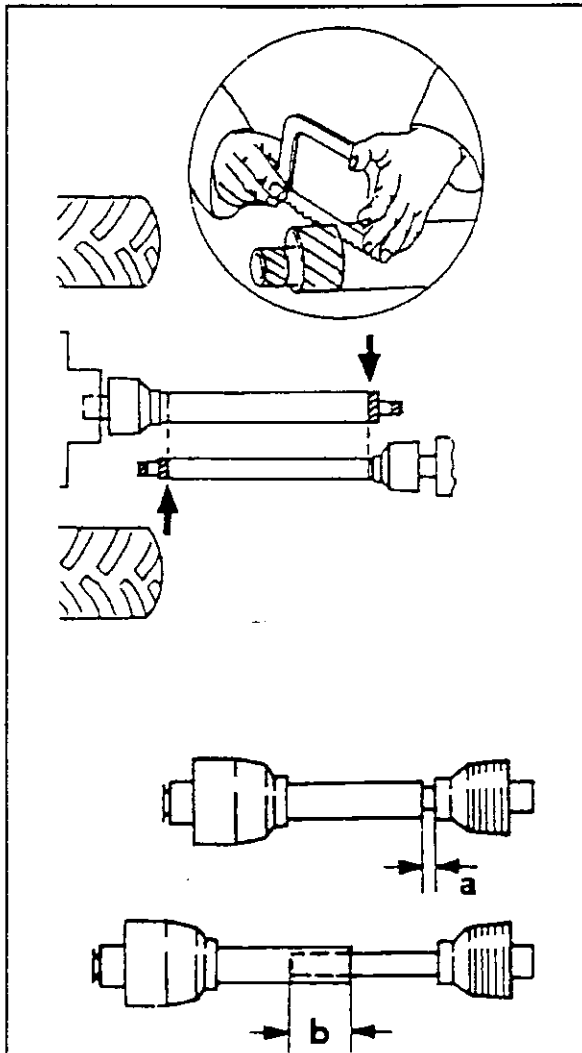

fig. 4-8
- Place the two sections alongside each other and check the overlap, with the machine raised and lowered (fig. 4-8), that